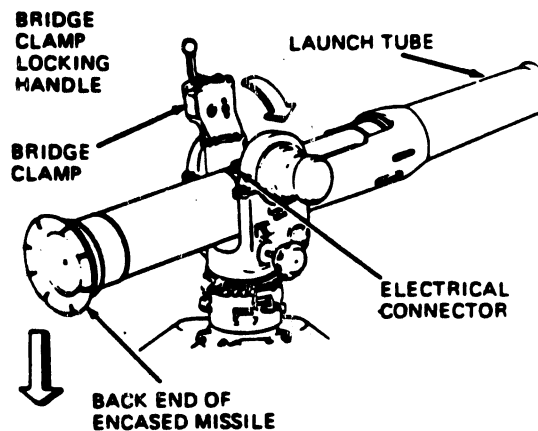

Fig 4-11. Securing encased missile into launch tube.
Step 8. Lower the back end of the encased missile and ensure that it is placed so that the electrical connector will join with the bridge clamp. Push down on the bridge clamp and pull the bridge clamp locking handle backward and down to lock the encased missile in the launch tube (fig 4-11).